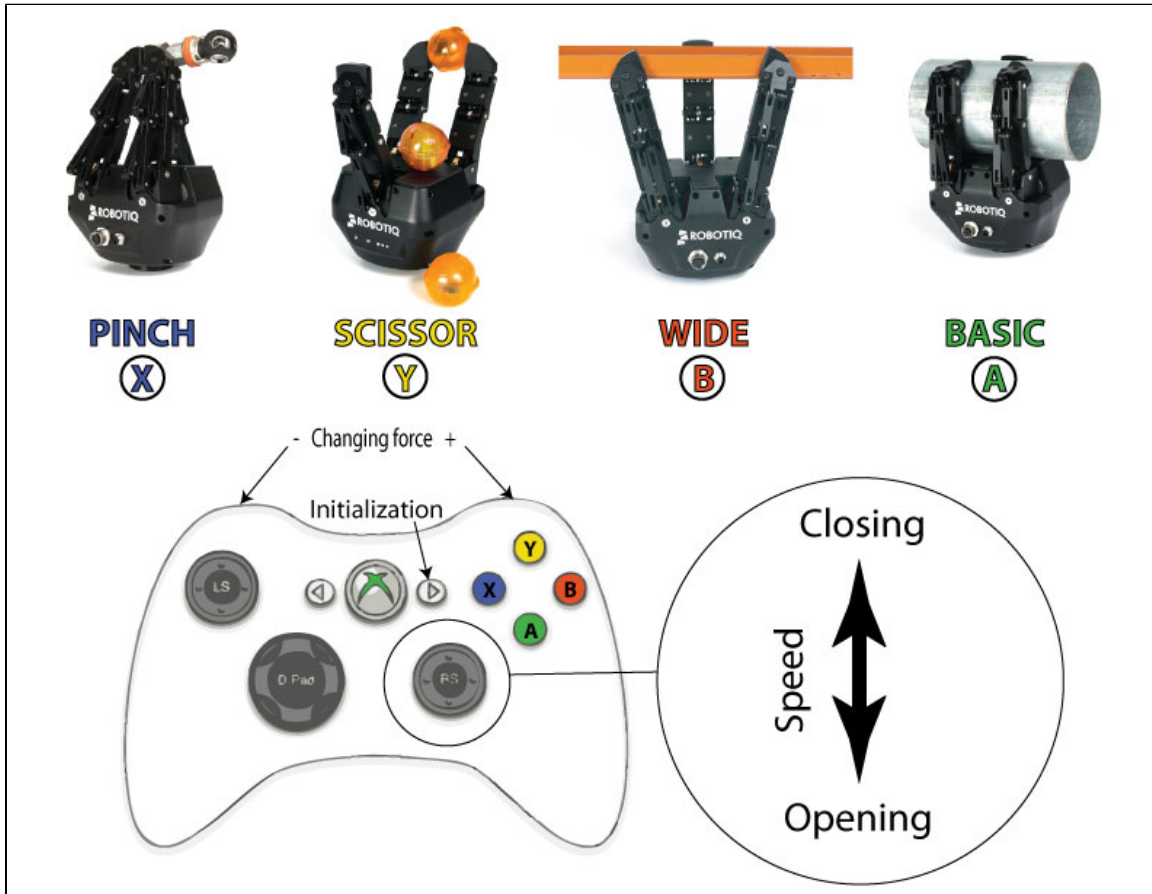

Figure 5.5.2.1 : Xbox Controls for the Adaptive Gripper S model
- **Xbox Joystick control** allows control of the Gripper using a remote Xbox controller (see Figure 5.5.2.1 for a summary of the available controls).